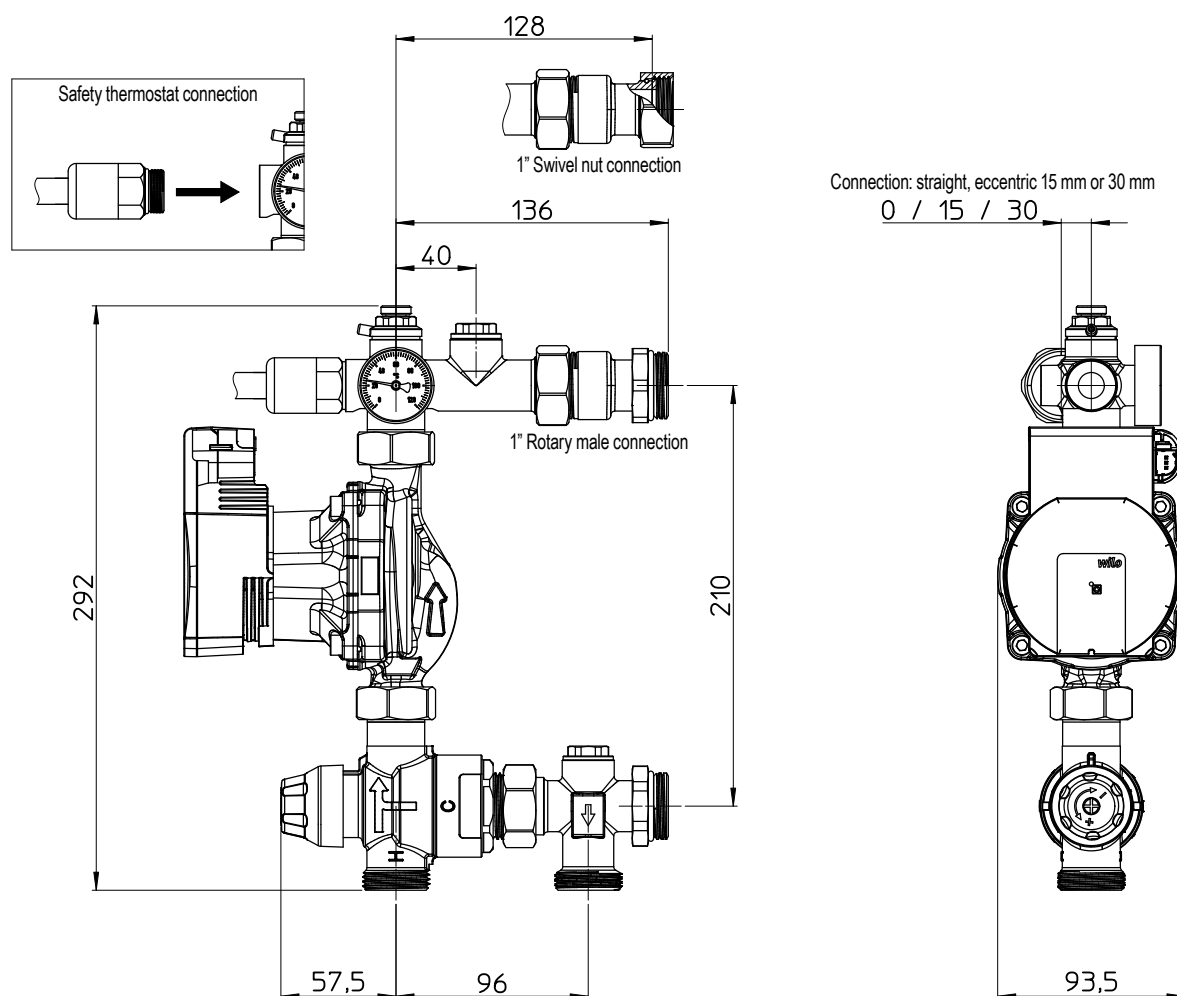

Fig.3: Dimensions layout
- ✓ It is necessary to screw the safety thermostat as shown in Fig.3, and to arrange for its wiring according to the indications shown in the "Wiring" section;